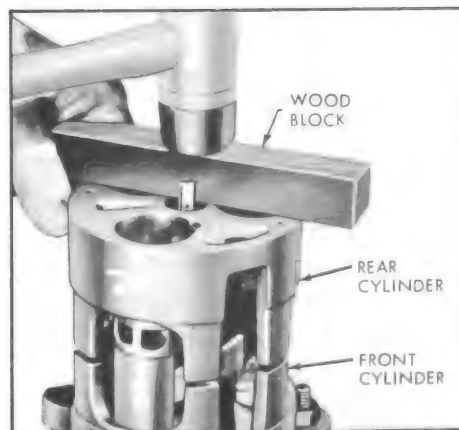

Figure 11-132—Assembling Rear Cylinder Half
11. Align rear cylinder half casting with bores, suction passage, discharge holes, dowel pins, etc. Tap into place, using a wood block and mallet. See Figure 11-132.